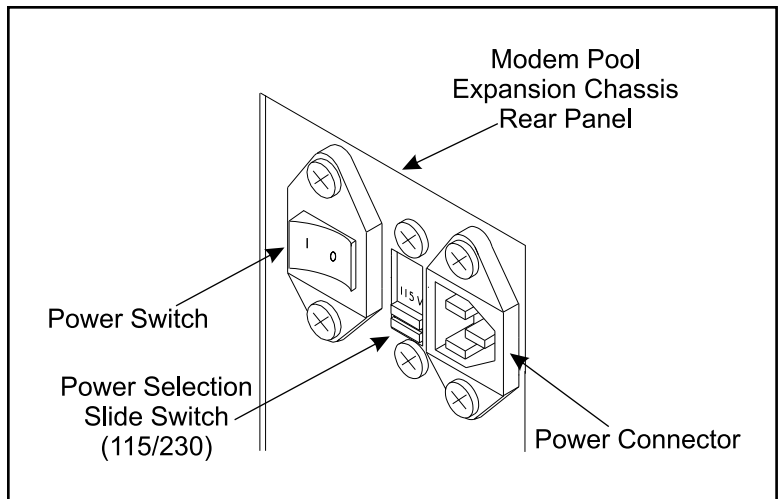

Figure 6-4. Equinox Modem Pool Expansion Chassis Power connections
- Set the *Power Selection Slide Switch* (located between the power switch and the power connector on the rear of the chassis) to match your main power voltage source (see Figure 6-4).